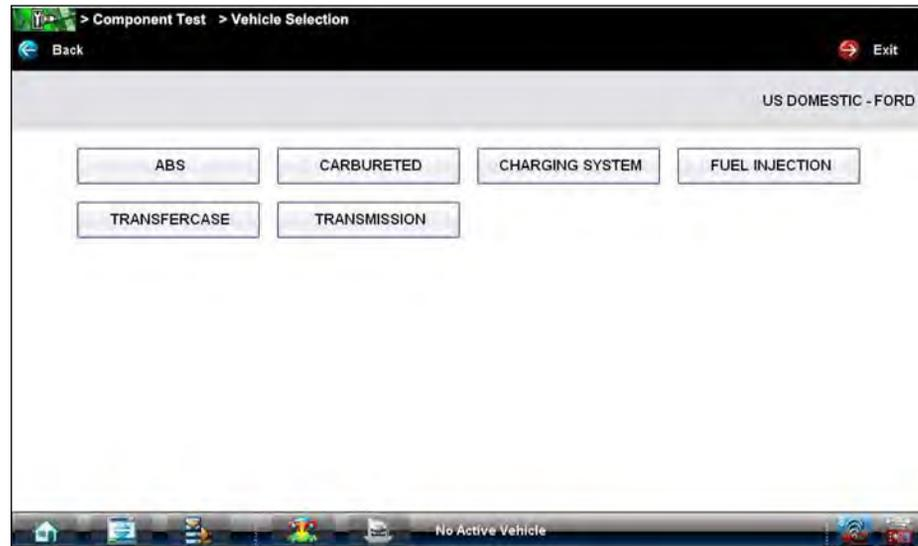

Figure 7-1 Sample available systems menu
3. Select **FORD** and a list of systems available for testing displays (Figure 7-1).